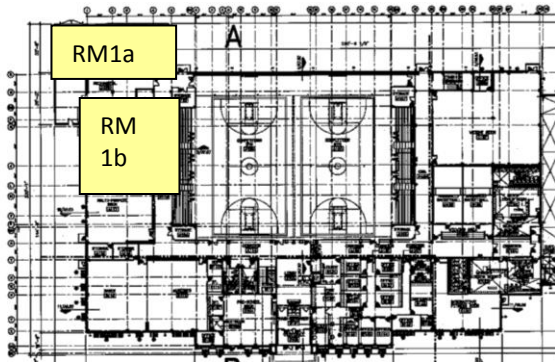

Figure 4-2.1 - Rec Center 1st Floor Mechanical Room Locations
The recreation center is serviced by five (5) mechanical rooms located as shown below in **Figures 4-2.1 - Rec Center 1st Floor Mechanical Room Locations** and **4-2.2 - Rec Center 2nd Floor Mechanical Room Locations**: